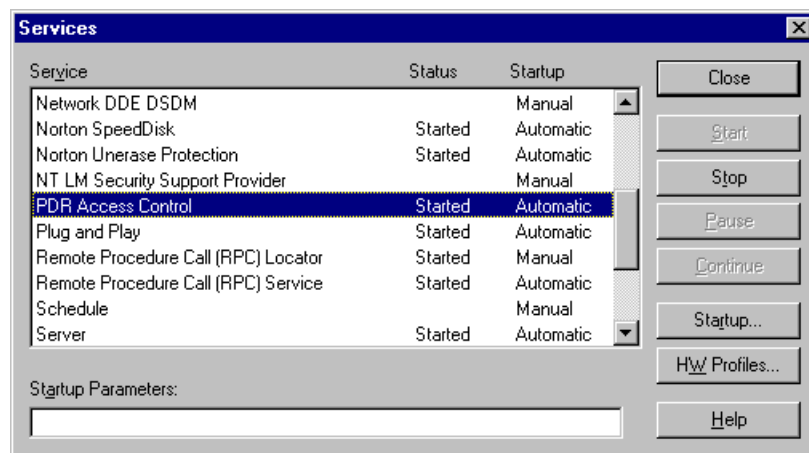

Figure 72. Services dialog box
4. Double-click the **Services** icon. The Services dialog box appears (Figure 72).